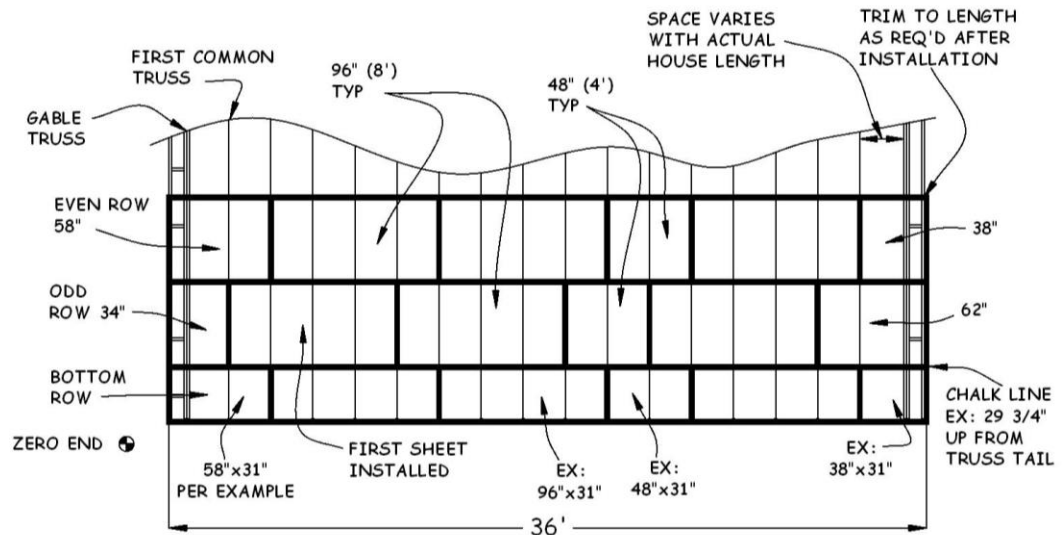
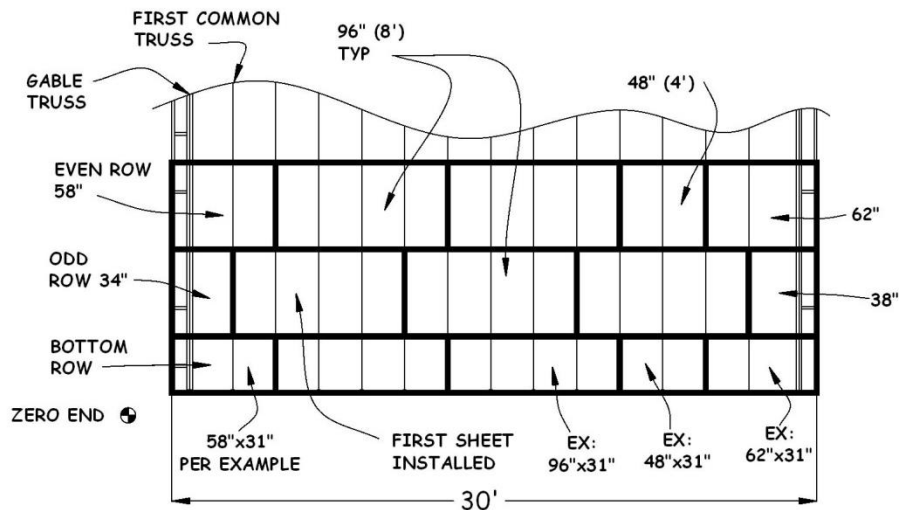

Figure 7-1. OSB Layout for 36' Roof.
Figure 7-2. OSB Layout for 30' Roof.
1. Refer to Figure 7-1 and Figure 7-2, below, which show examples of the roof sheathing layout for a 36’ and 30’ long roof, respectively. Note that each **odd** row has a **34” piece** at the zero end, and each **even** row has a **58” piece** on the zero end. Also, note that the **bottom row** is not full-width. The size of these **bottom row** pieces will be determined in Section 7.4.2.
- Place two 34" and two 58" pieces on each eave side of the house at the zero end, and two each of the 38" and 62" pieces on each eave side of the non-zero end. There are typically 4 rows of sheathing on each side of the house, or 8 rows total. As shown in Figure 7-1, Figure 7-2, and Table 7-1, the 62" and 38" pieces are used on the non-zero end, but not necessarily in the same row as its corresponding cutoff.
5. Depending on the length of the house, a 4' piece may also be needed in the middle of the row to reduce scrap and to maintain the stagger of the joints between sheets. In the 36' example in Figure 7-1, a 4' piece is required in each row. Figure 7-2 shows a **4' piece in even rows only**. Referring to "**Total # of 4s**" in Table 7-1, determine the number of 4' pieces required. Cut full-width sheets in half to obtain the required number, label with the size, and place half of them on each eave side of the house near the middle.